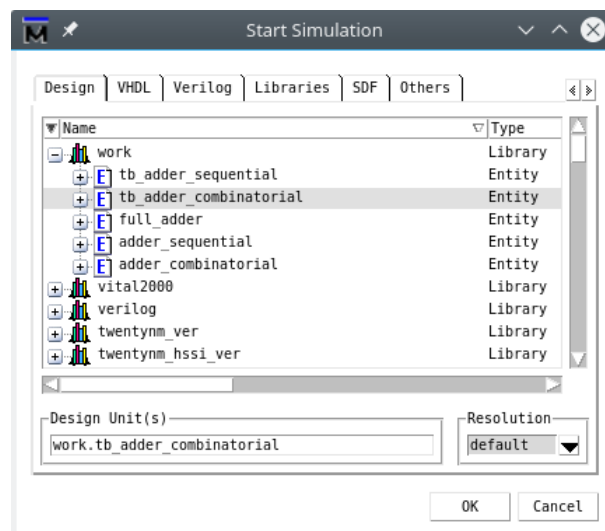

Figure 6: Start simulation
3. Select work > tb_adder_combinatorial, then press OK (Figure 6).